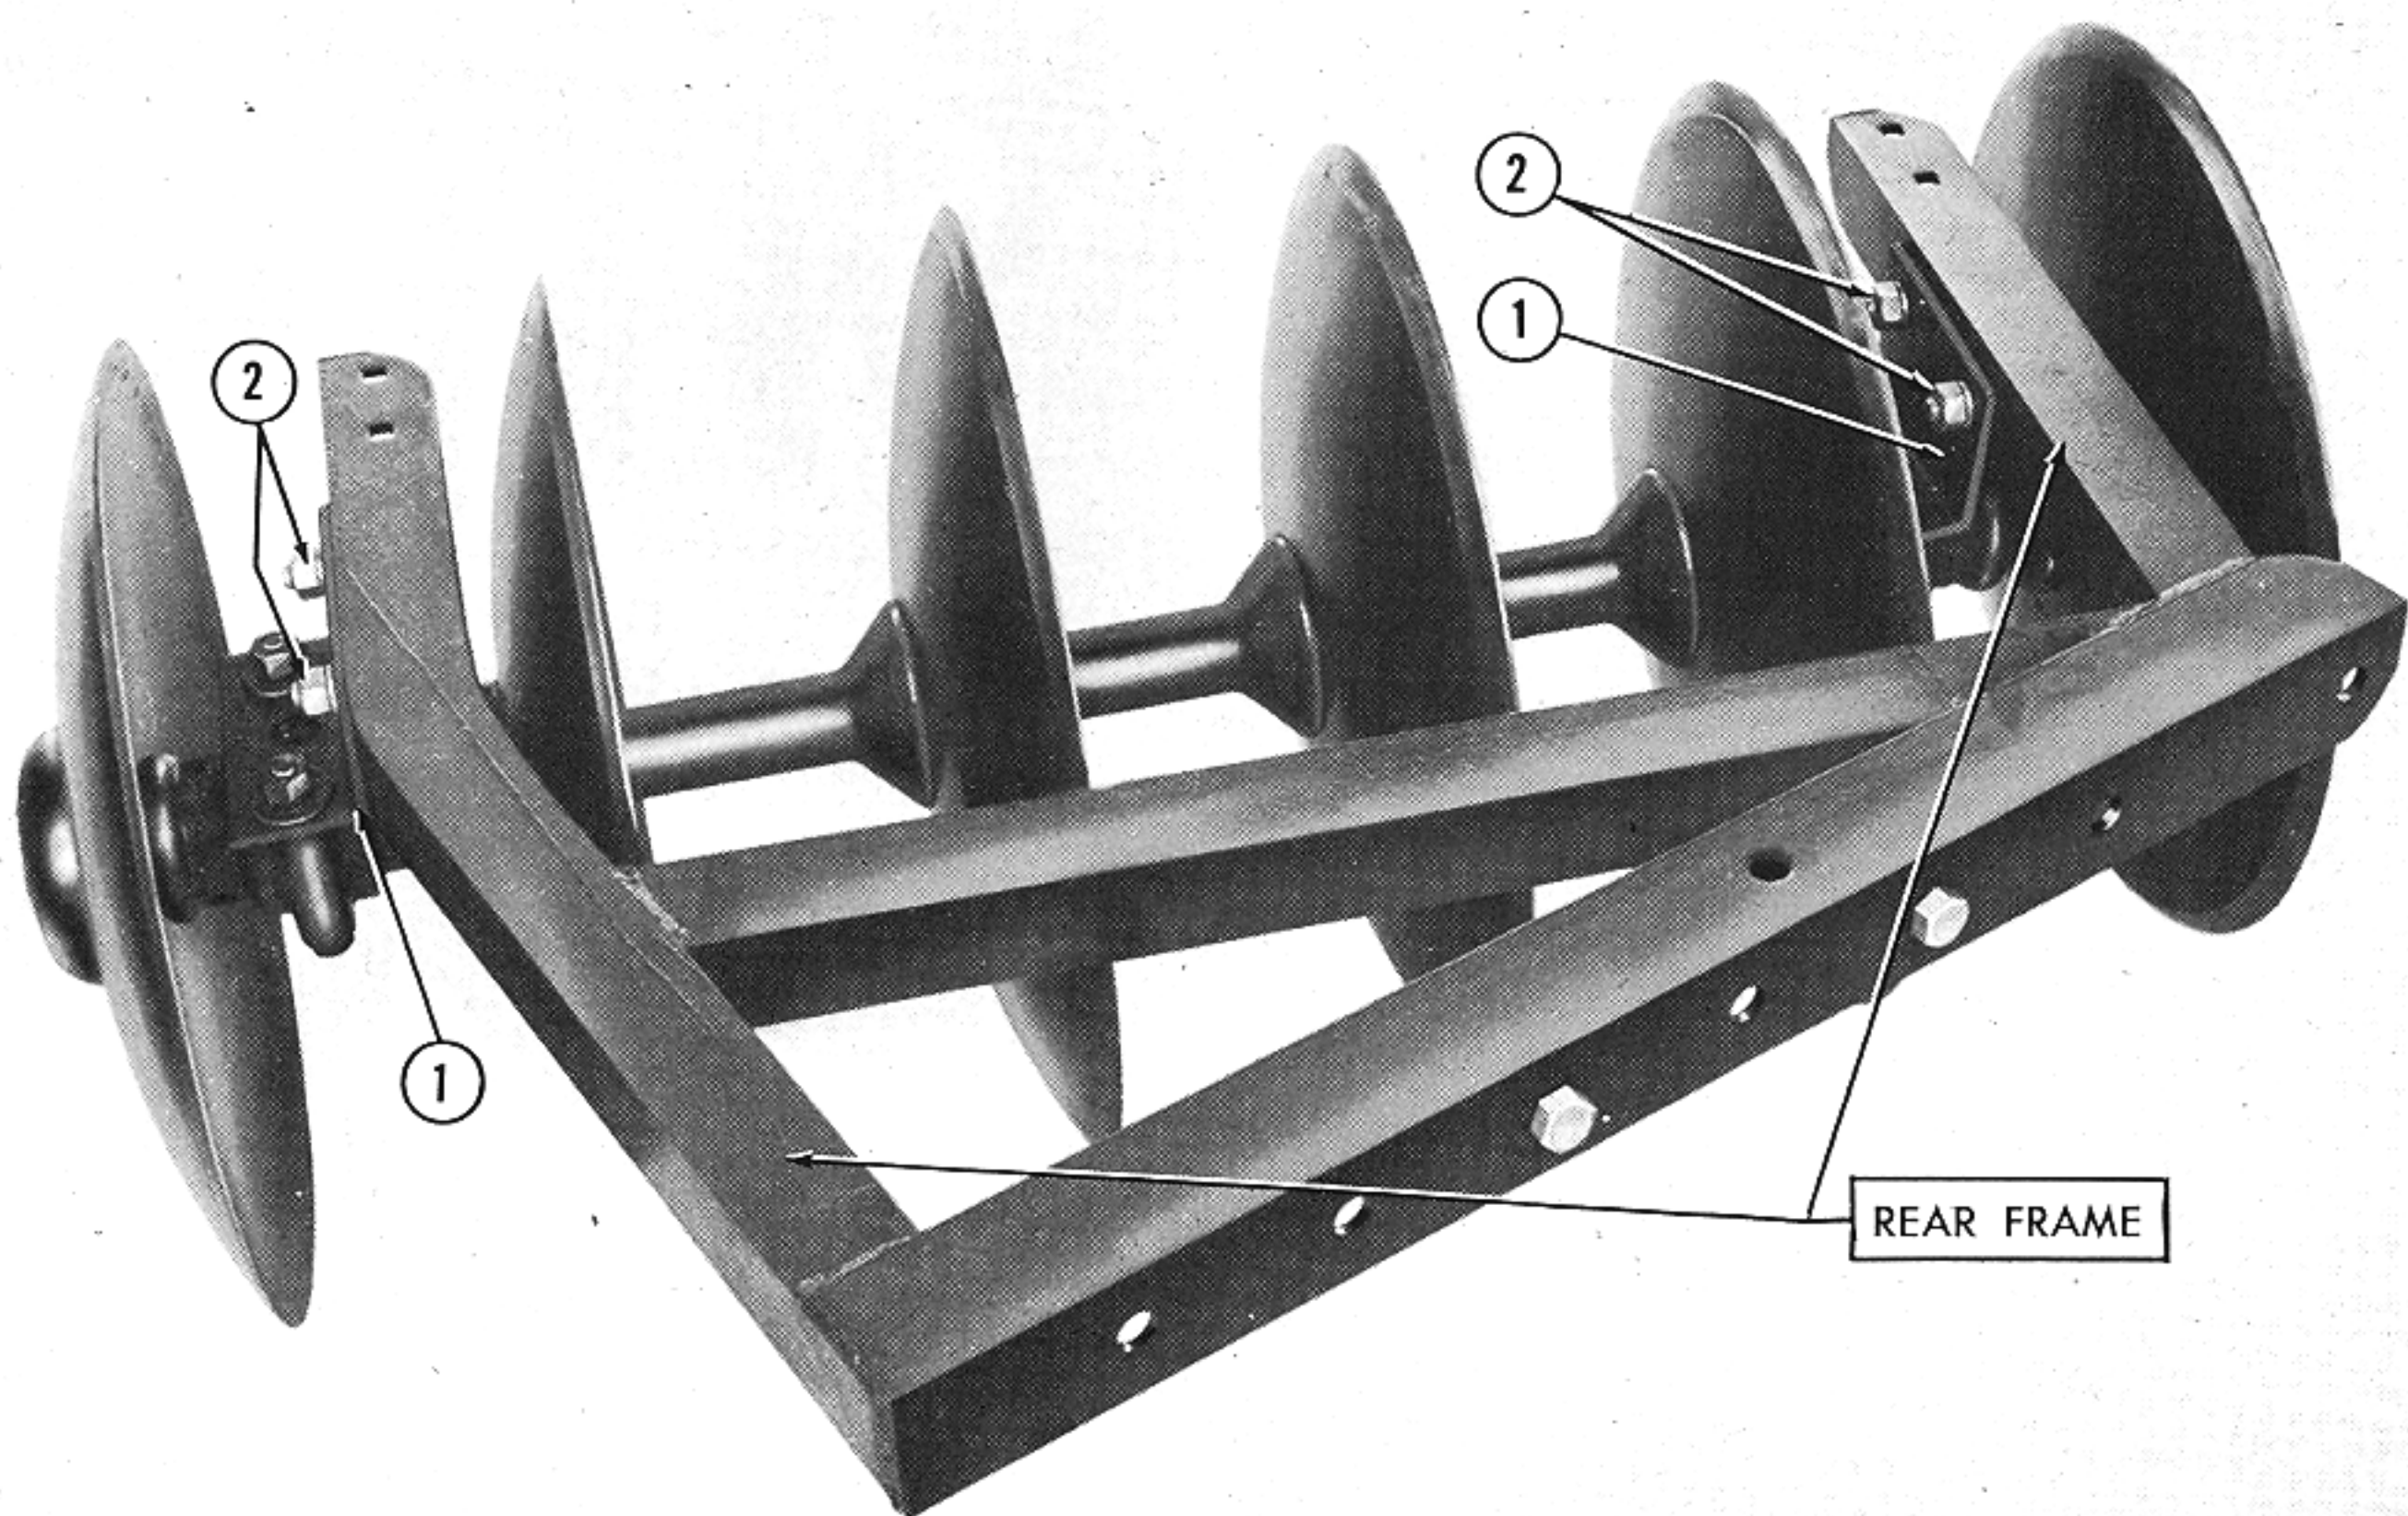

Figure 4
2. Attach rear frame to the disc gang. See Figure 4.
- a. Position the rear frame to fit on the disc gang risers (1) as shown in Figure 4. Be sure that the discs are dished to the left (when viewed from the rear). The open part of the frame is to the rear.
- b. Bolt the risers to the frame with the four bolts (2) provided in the frame.